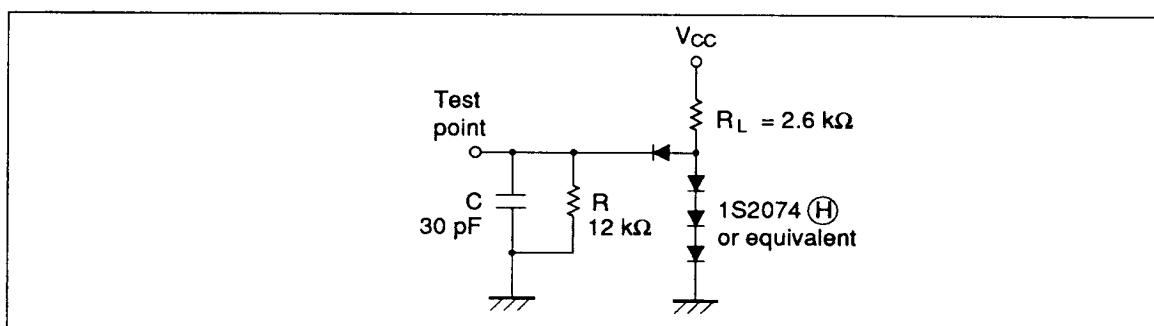

Figure 55 Timing Load Circuit
| Transmit clock cycle time | t_{Scyc} | SCK | 1.0 | — | — | t_{cyc} | Load shown in figure 55 | 1, 2 |
| Transmit clock high width | t_{SCKH} | SCK | 0.3 | — | — | t_{Scyc} | Load shown in figure 55 | 1, 2 |
| Transmit clock low width | t_{SCKL} | SCK | 0.3 | — | — | t_{Scyc} | Load shown in figure 55 | 1, 2 |
| Transmit clock rise time | t_{SCKr} | SCK | — | — | 100 | ns | $V_{CC} = 3.5$ to 6.0 V, load shown in figure 55 | 1, 2 |
| | | | — | — | 200 | ns | Load shown in figure 55 | 1, 2 |
| Transmit clock fall time | t_{SCKf} | SCK | — | — | 100 | ns | $V_{CC} = 3.5$ to 6.0 V, load shown in figure 55 | 1, 2 |
| Serial output data delay time | t_{DSO} | SO | — | — | 300 | ns | $V_{CC} = 3.5$ to 6.0 V, load shown in figure 55 | 1, 2 |
| | | | — | — | 500 | ns | Load shown in figure 55 | 1, 2 |
2. Refer to figure 55.